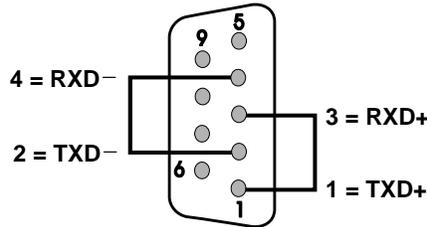

Figure 25 - RS-485 Loop-back Wires
- Ports 3 through 10 - RS-485: use a 9-pin male D-type loop-back plug or loop-back wires (see Fig. 25) or configure **CW_35/31** CPU Module Switches (SW3 and SW4) and/or CB Switches (SW1, SW2, SW3 and SW4) for loopback operation (see Tables 3 & 7).